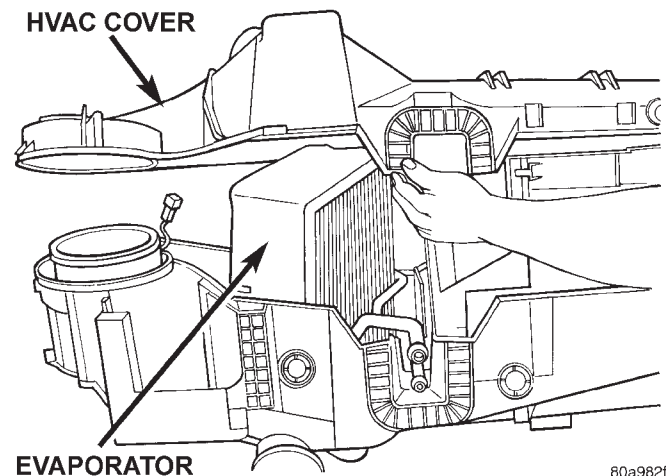

Fig. 53 HVAC Cover
(8) Remove screws around the perimeter of the upper HVAC housing (Fig. 53).